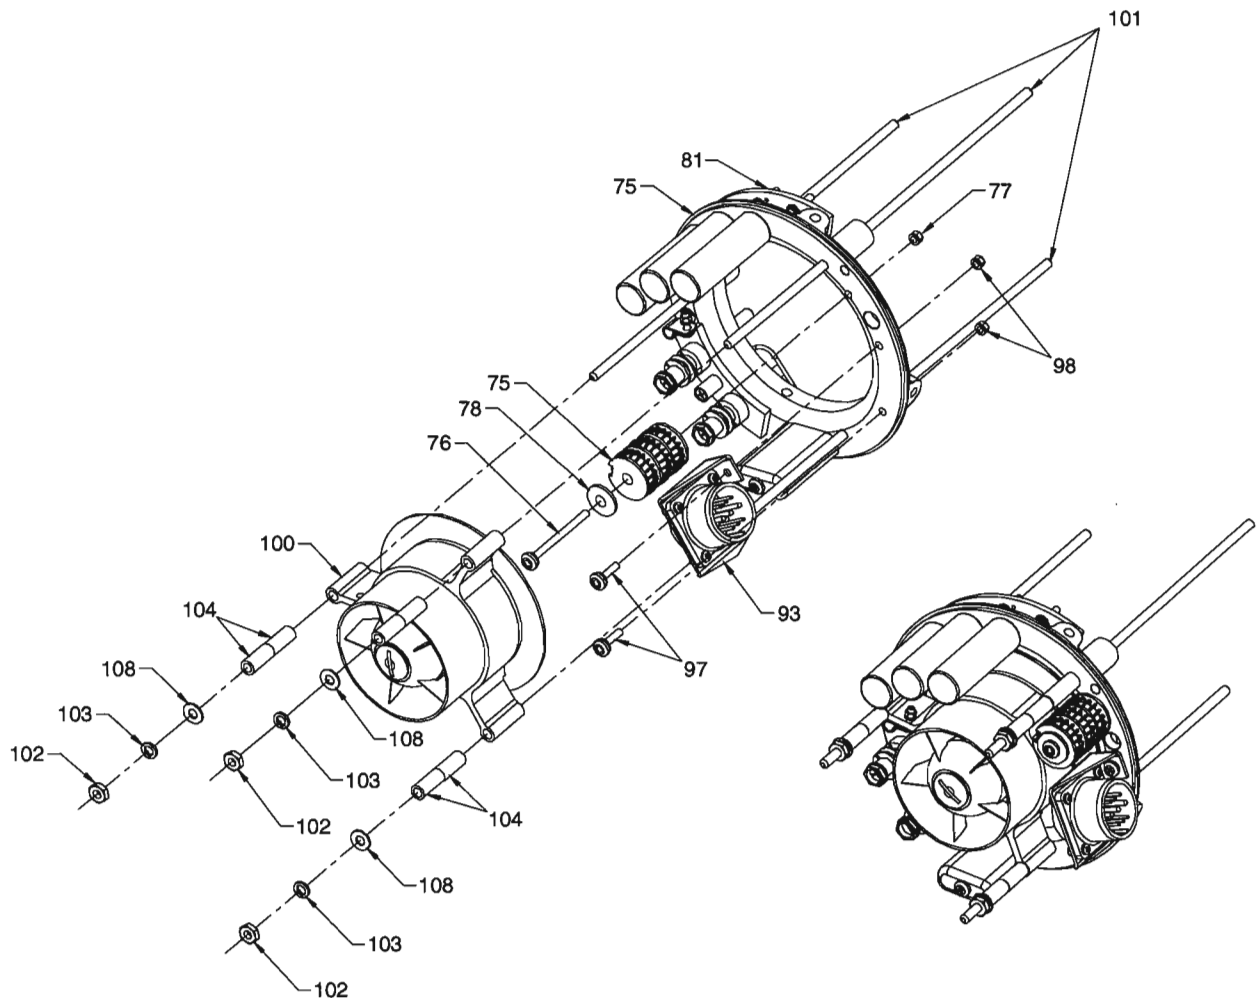

Figure 2. New Fan Motor Assembly Installation
NOTE: Prior to assembly of new fan motor assembly, it is necessary to remove the input connector (93) and reactor (75). Refer to Figure 2.
- (1) Remove two screws (97) and two nuts (98) securing input connector (93) to motor ring (99).
- (2) Remove input connector (93) and set aside.
- (3) Remove screw (76), washer (78) and nut (77) securing reactor (75) to motor ring (99).
- (4) Remove reactor (75) and set aside.